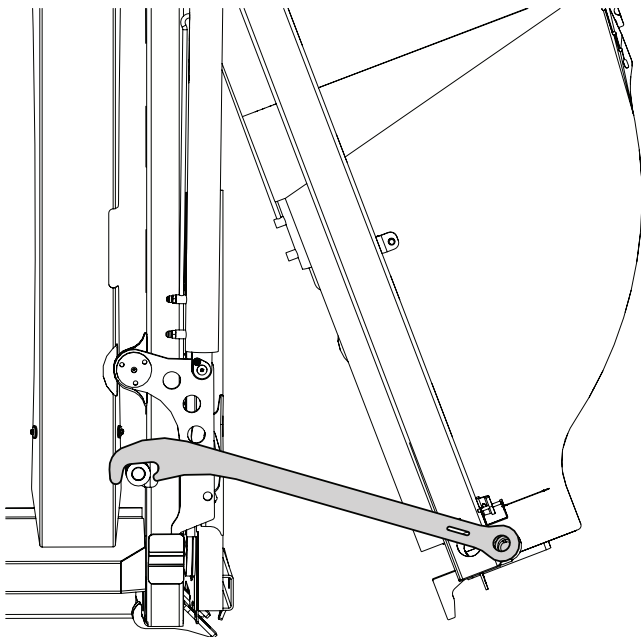

Figure 24
- Stop opening the tailgate when the tailgate props are engaged (Figure 24).